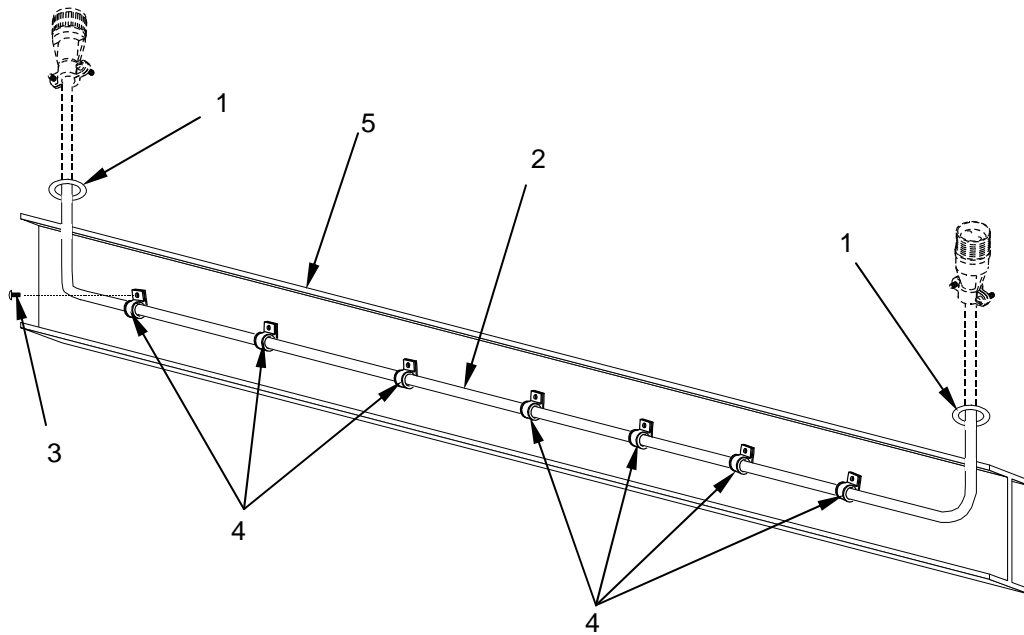

Figure 3. Replace a Damaged 12-ft MKT Crossway Cable.
1. Remove the rubber grommets (Figure 3, Item 1) at each end of the cable (Figure 3, Item 2) and pull the cable through the trailer floor at both ends. Set the rubber grommets aside.
2. Remove the screws (Figure 3, Item 3) retaining the cable clamps (Figure 3, Item 4) to the trailer support beam (Figure 3, Item 5), and remove the cable clamps.
3. Remove the damaged cable (Figure 3, Item 2).
4. Install the replacement cable (Figure 3, Item 2) as described in the section of this WP entitled, "Install the 12-ft Crossway Cable".